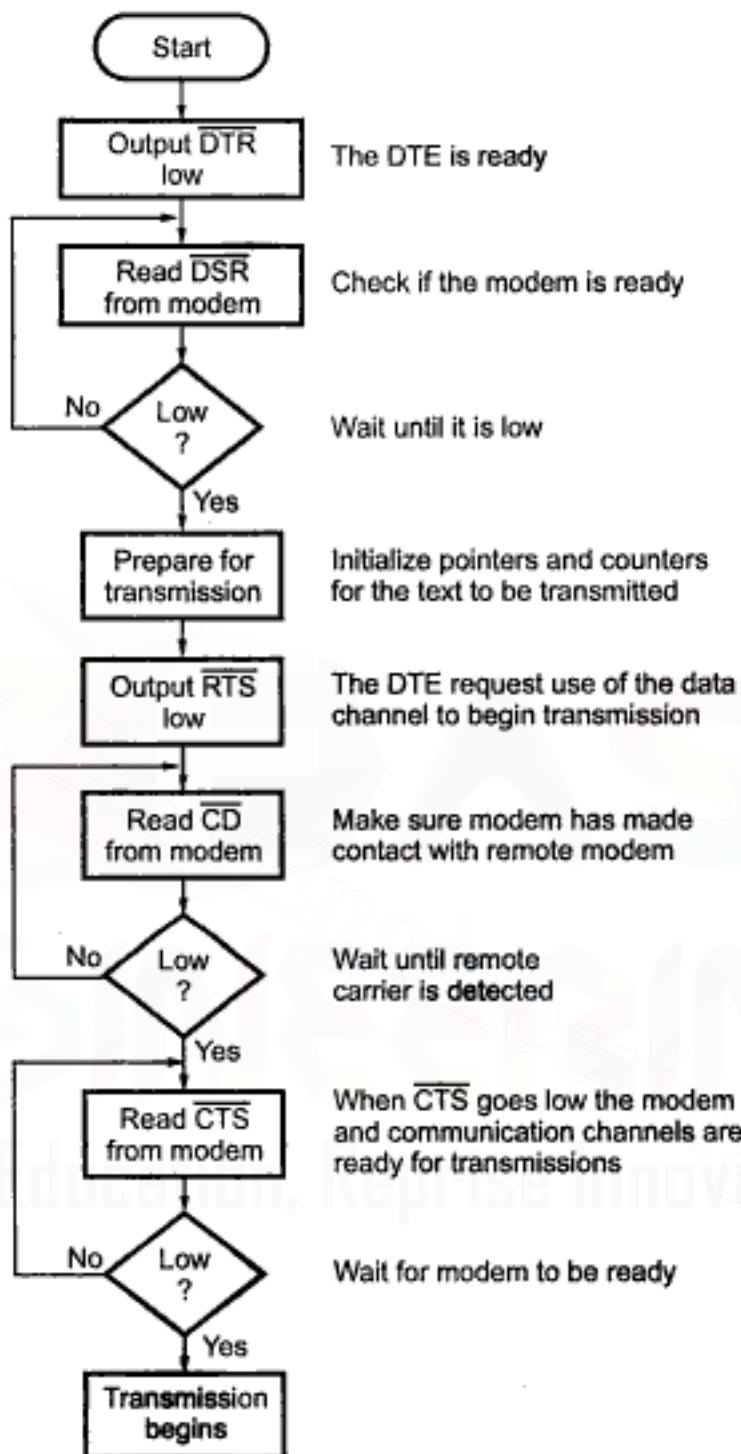

Fig. 14.7 Flowchart showing handshaking process
After the terminal power is turned on and the terminal runs any self-checks, it asserts the data terminal ready (DTR) signal to tell the modem it is ready. When modem is ready to transmit or receive data, it asserts the data set ready (DSR) signal to the terminal. After receiving DSR, the DTE requests use of the data channel by asserting RTS signal to begin transmission. The MODEM at the receiving end is then dialed. This answer-mode modem responds with a 2225 Hz carrier frequency. When the modem connected to the sending terminal receives this carrier, it asserts carrier detect (CD) to the terminal. After proper time interval the modem sends clear-to-send signal (CTS) indicating modem and communication channels are ready for transmission. Immediately after CTS signal the terminal at the transmitting end sends serial data on its TXD output. A similar handshake takes place for receiving data. Fig. 14.7 shows flowchart for the handshaking process when an RS-232C data port is used to exchange data with the modem.